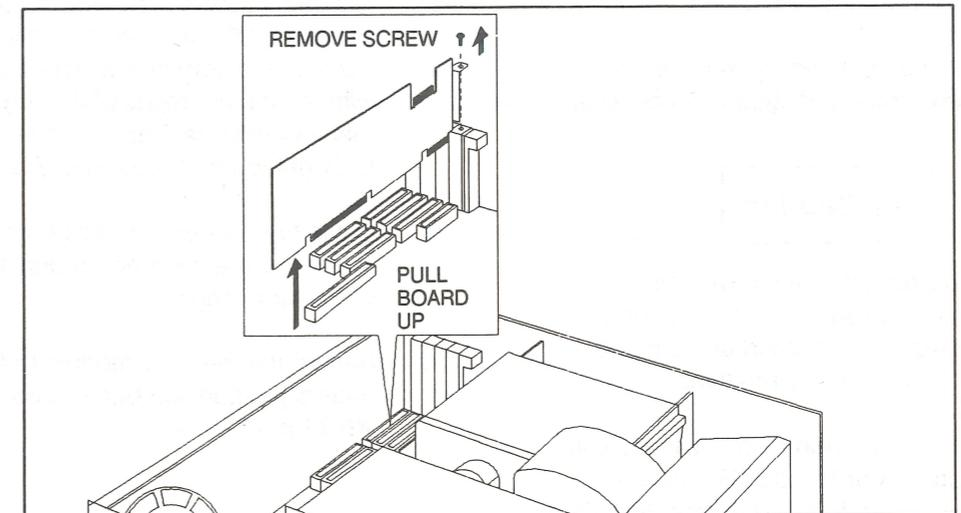

Figure 8: Removing an Expansion Memory Board
1. Remove the retaining screws that holds the 1MB expansion board in the 32-bit expansion slot (Figure 8).